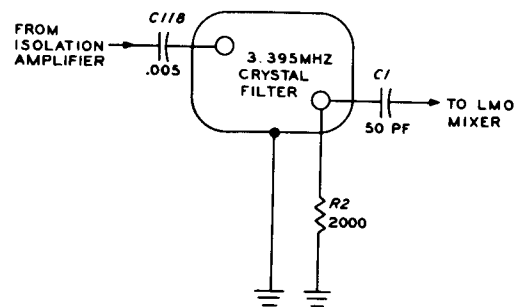

Figure 6-8
**SYMMETRICAL CRYSTAL BANDPASS FILTER (Figure 6-8)**